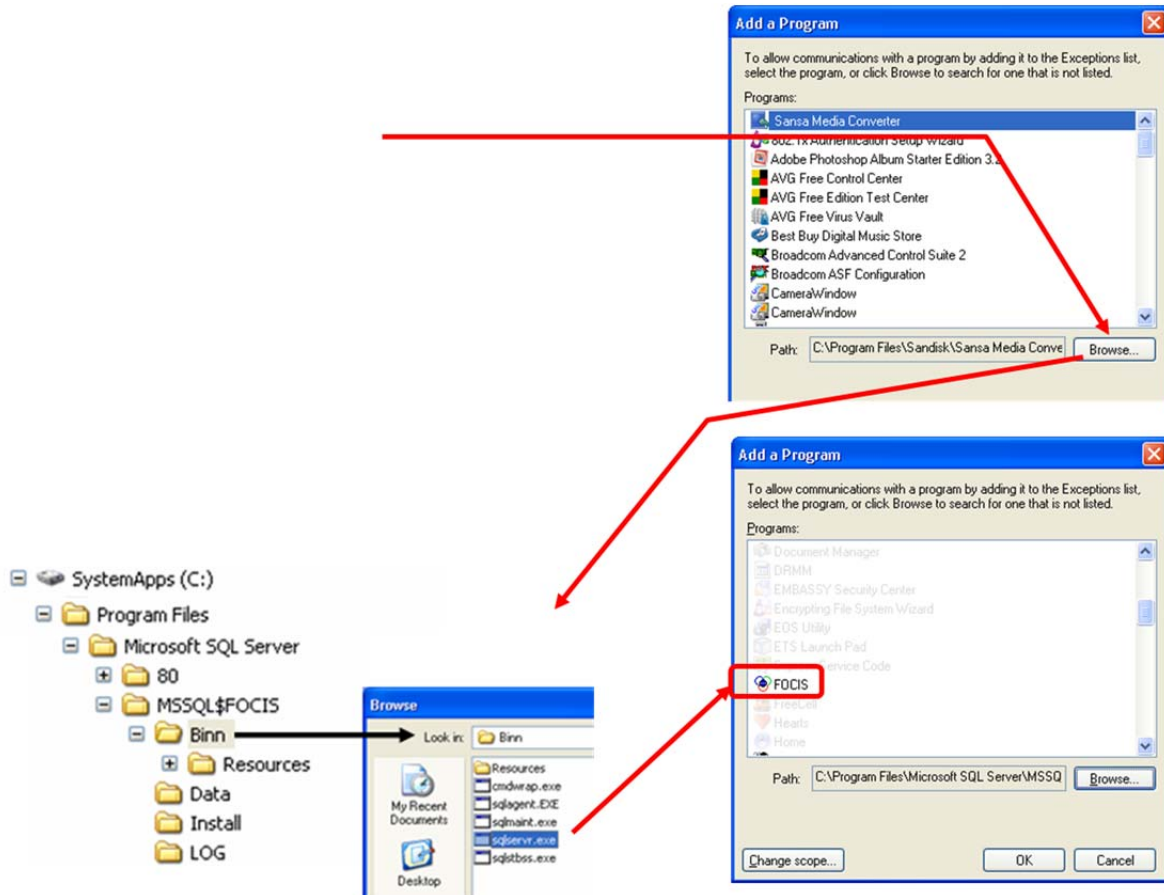

Figure III-27. Window Sequence for Adding sqlservr.exe to Exceptions List
7. On the Browse window, navigate to the FOCIS database program (most likely located at **C:\Program Files\Microsoft SQL Server\MSSQL\$FOCIS\Binn\sqlservr.exe**). (See sequence of windows in Figure III-27).